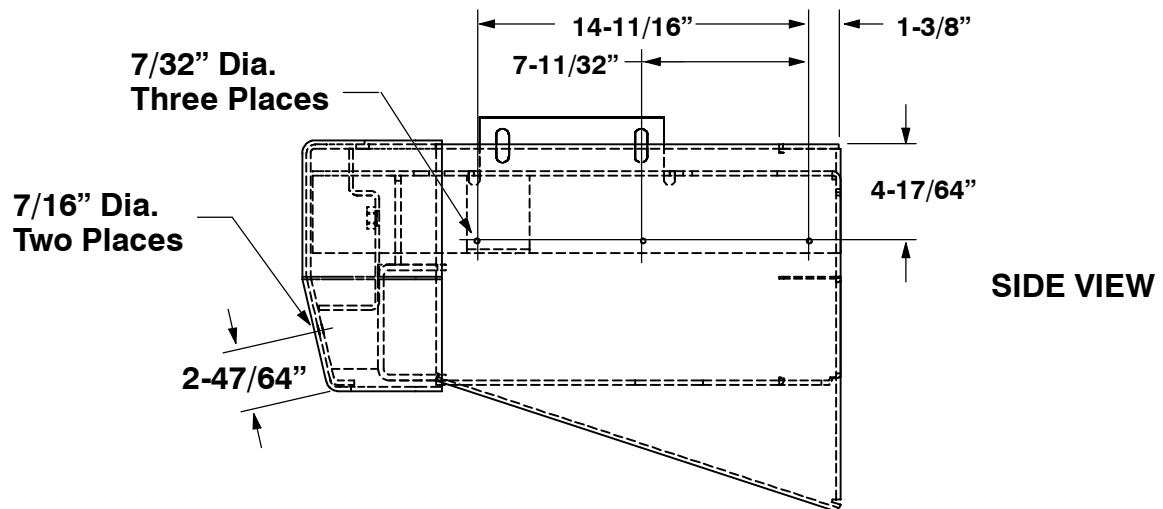

FIG. 4 – Hole Locations on Left Side of Bumper
7. Drill three 7/32 inch diameter holes in left side of machine. Refer to FIG. 4 for hole locations.